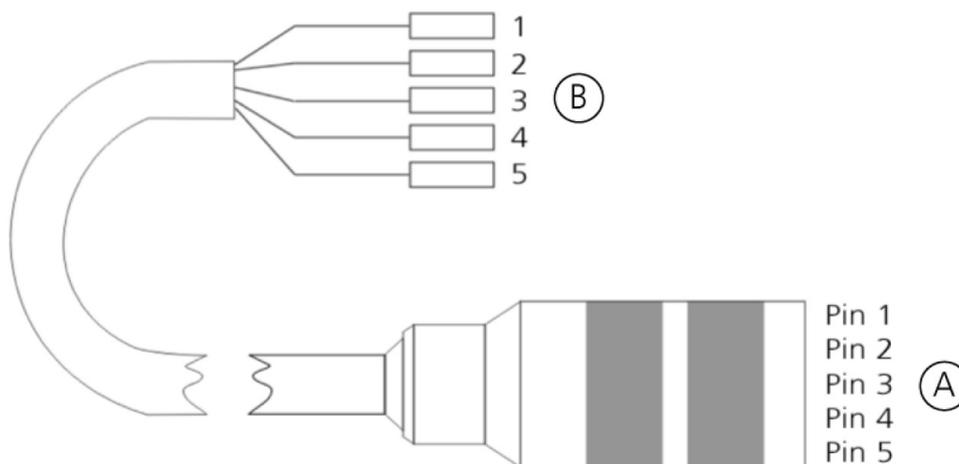

Figure 5: Pyrometer wire connection with configuration
3. Connect the colored wires of the 5-pole connecting cable (position B, Figure 5) to appropriate connections of a switchboard. For wire configuration please see legend to Figure 5.
4. Connect the 5-pole connecting cable to the pyrometer at the back of the instrument (position A, Figure 5) and to the power supply.